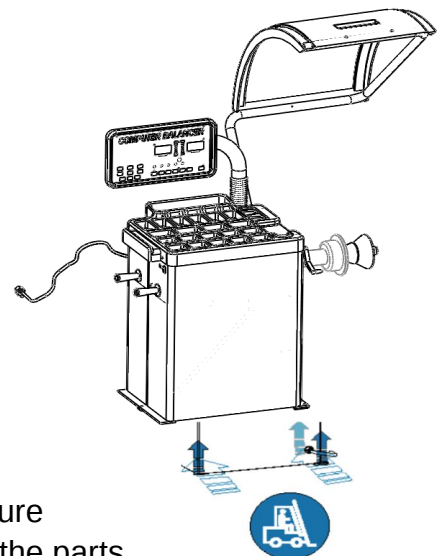

Fig. 2
- Remove the connecting bolts securing machine to pallet, allowing to remove off pallet, **Fig. 2**.